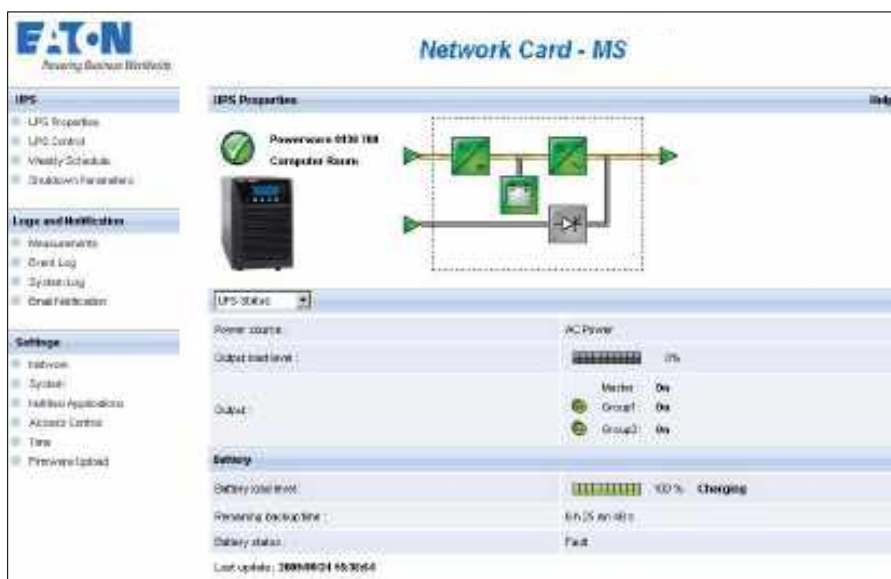

Figure 12. Home Page
2. Enter the card's **IP address** in the address bar. The home page displays (see Figure 12).